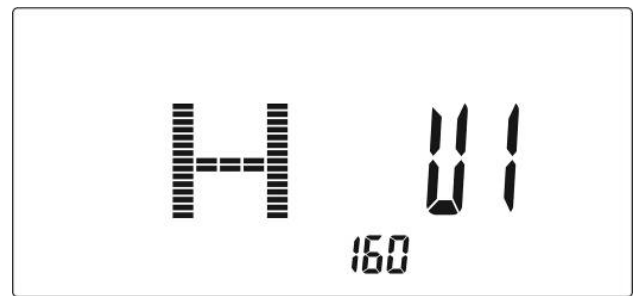

Figure 2
3. Enter gender, age, height (fig. 2), and the weight.